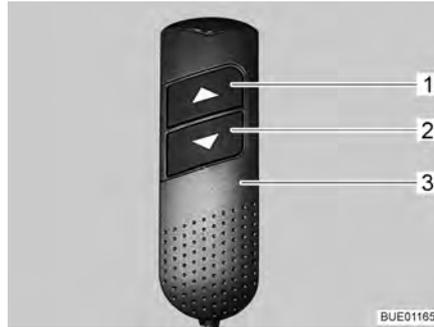

Fig. 76 Manual control unit
- On the manual control unit (Fig. 76,3) press both arrow keys (Fig. 76,1 and 2) simultaneously and keep them pressed until the pull-down bed has moved fully up or down and there is an audible beep tone.
- On the manual control unit (Fig. 76,3), press the bottom arrow key (Fig. 76,2) and keep it pressed until the pull-down bed has moved down into its end position.
- On the manual control unit (Fig. 76,3), press the top arrow key (Fig. 76,1) and keep it pressed until the pull-down bed has moved up into its end position.
- After resetting, use the arrow key (Fig. 76,1 or 2) to move the pull-down bed in the opposite direction as far as the end position.